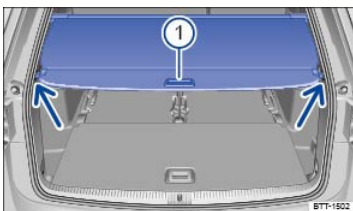

Fig. 187 In the luggage compartment: Opening the luggage compartment cover.
- Pull the luggage compartment cover by the handle \Rightarrow Fig. 187① towards you, then up and out of the stops (arrows) on the sides of the luggage compartment.
- Pull the retracted luggage compartment cover evenly towards the rear and guide it into the stops \Rightarrow Fig. 187.